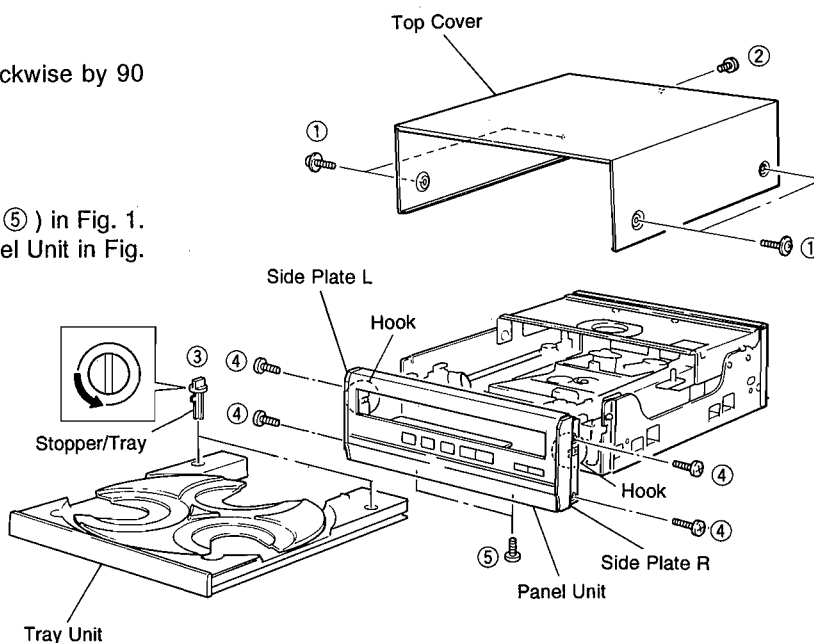

Fig. 1
- a. Remove 4 screws (④) and 2 screws (⑤) in Fig. 1.
- b. Remove 2 hooks and then pull the Panel Unit in Fig. 1.